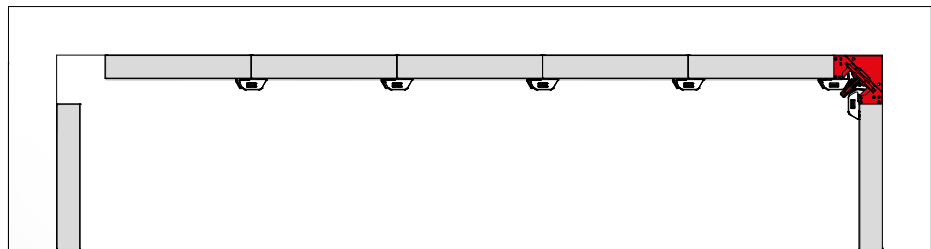

Fig. 51.3
3. Lift the ST stripping corners out of their position, then strip the panels (Fig. 51.3).